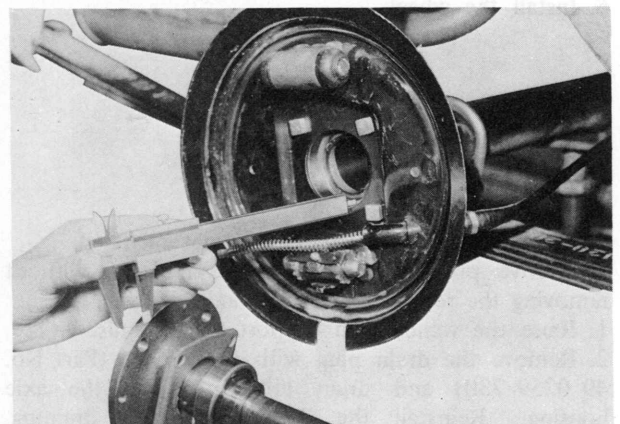

Fig. 9-8 Measuring bearing seat depth
2. Check the rear axle shaft end play as follows: Install the brake backing plate and measure the depth of the bearing seat in the axle housing, using a depth gauge as shown in Fig. 9-8. Then, measure the width of the bearing.